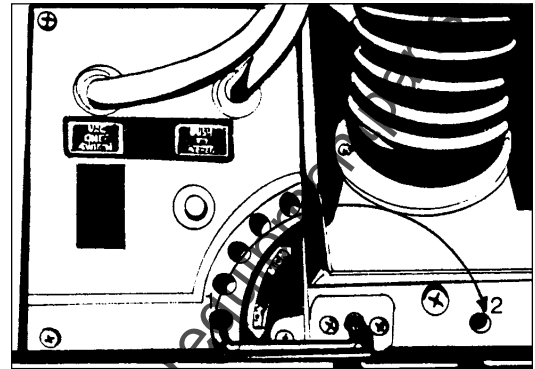

Figure 12
4. Pull the lever (1) and turn it clockwise to release the cover.
5. Put the rod in the detent opposite the five brush setting holes (2). See figure 12